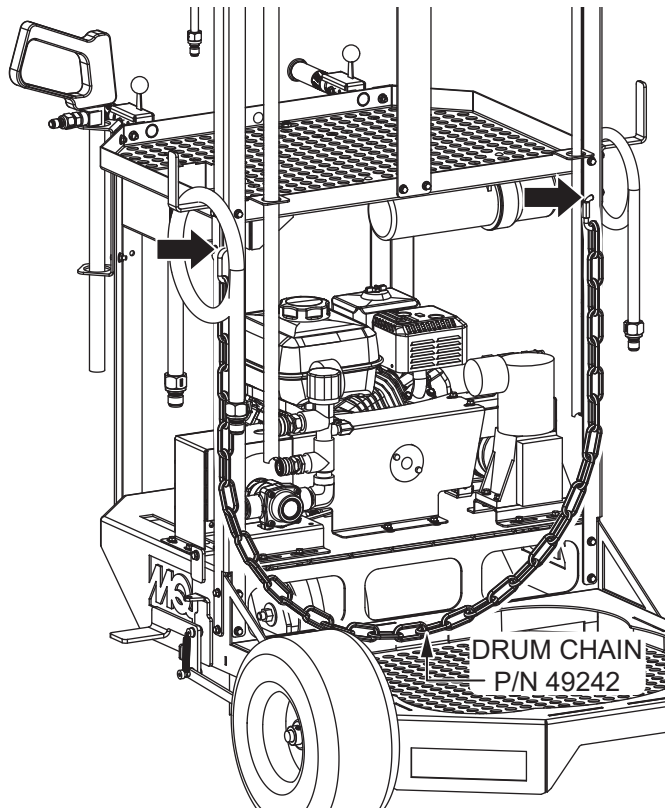

Figure 20. Drum Chain Installation
5. Attach the drum chain (P/N 49242) to the front upright frame mounts as shown in Figure 20.